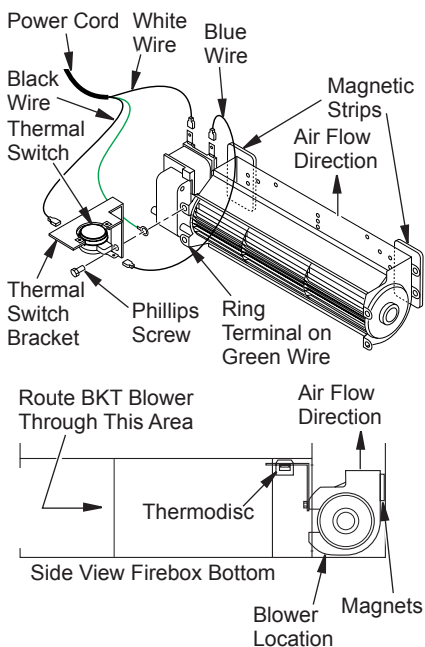

Figure 29 - Blower Model BKT
1. Place green ground wire with ring terminal between bottom hole on thermal switch bracket and top ear hole on blower assembly. Insert Phillips screw into all three pieces and tighten securely (see Figure 29, page 19).
3. Place blower against lower rear wall of firebox outer wrapper with exhaust port directed upward and thermodisc positioned up near fireplace bottom. Thermodisc must be oriented near fireplace bottom as shown in Figure 29, in order to sense temperature and properly operate. Blower will be held in position against back wall by magnets incorporated onto blower housing (see Figure 29).